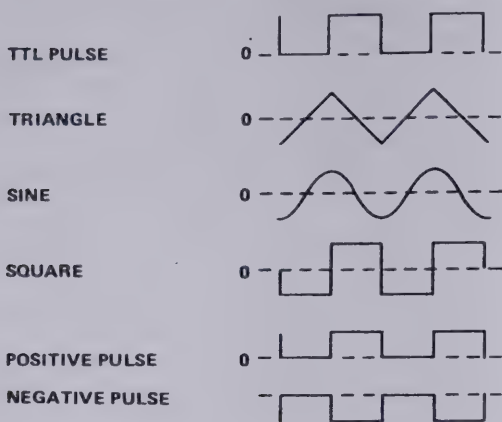
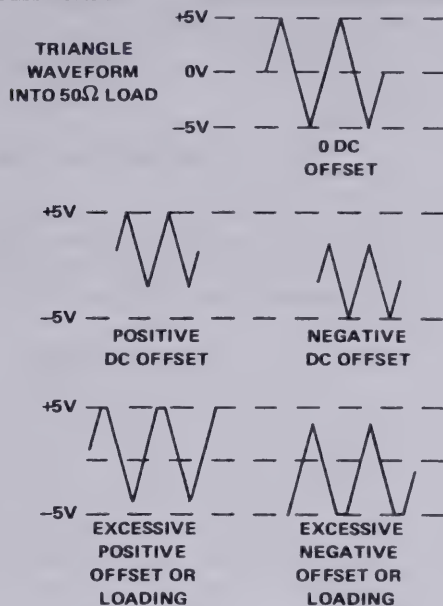

Figure 3-4. Pulse/Waveform Phase Relationship and Waveform Reference Lines
Figure 3-5. DC OFFSET Control
A fixed amplitude (0 to about 5V) TTL pulse of the generator frequency is provided at the PULSE OUT connector. This output can be used as a synchronizing reference for the main output (6). Phase of the waveforms relative to the sync output is shown in figure 3-4.
Offset of waveforms and dc voltage are controlled by the DC OFFSET control. The WAVEFORM switch ⑩ must be in one of the four right-hand settings. Center of the waveform reference (figure 3-4) is skewed positive with clockwise rotation, negative with counterclockwise rotation. Offset and dc voltage maximums are  $\pm 5V$  ( $50\Omega$  terminated). See figure 3-5 for restrictions.